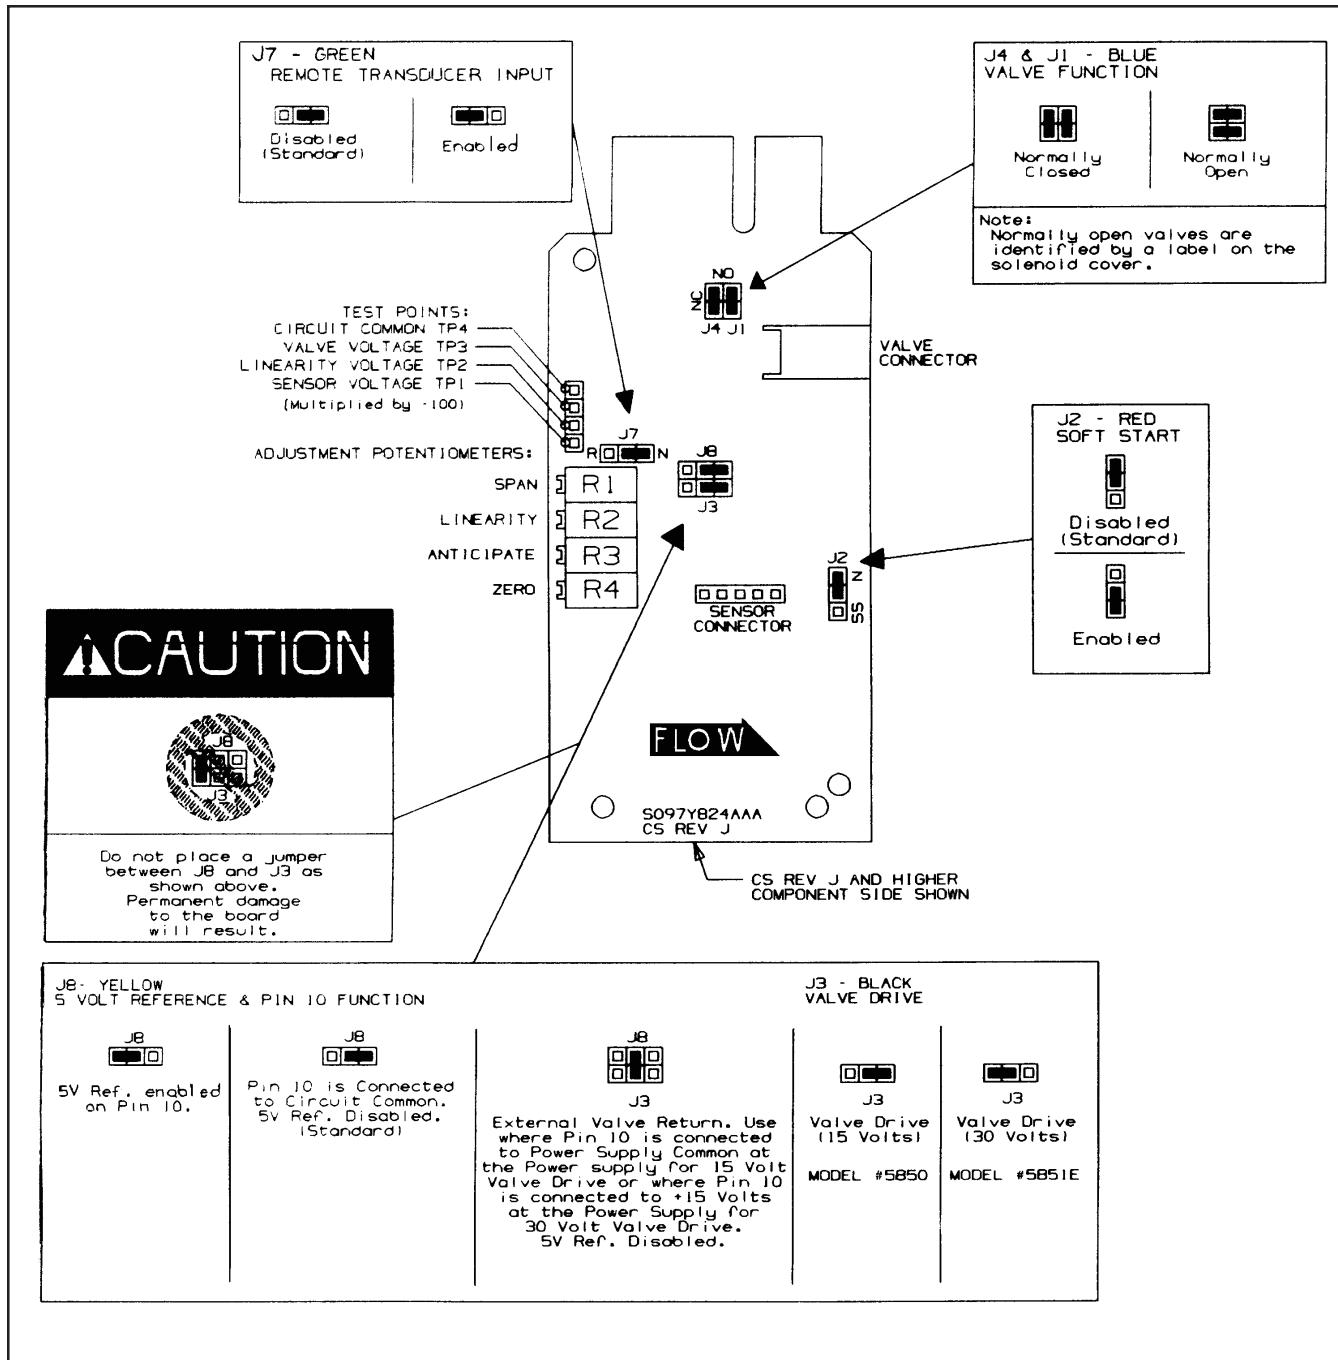

Figure 3-3 Card Edge PC Board Jumper Location &amp; Function
Refer to Figures 3-3, 3-4. To enable soft start, place the jumper on the controller printed circuit board at J2 in the right hand (ss) position.
Refer to Figures 3-3 and 3-4. To allow the Model 5851E control circuitry and valve to be used with an 0-5 Vdc external transducer signal, the jumper at J7 is moved to the lower two pins (R). With this feature enabled a 0-5 Vdc signal may be applied to the external transducer input terminal. The Model 5851E controller circuitry will modulate the valve position to increase or